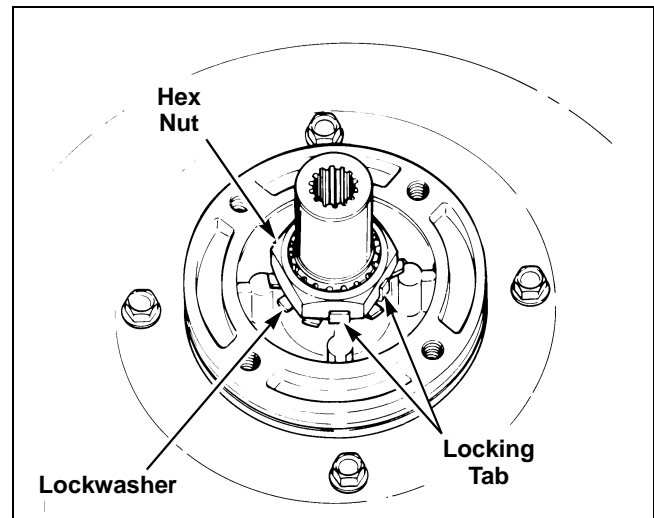

Figure 40
- h. Straighten bent tab(s) on lockwasher, then remove hex nut using No. 306P4 Hex Wrench. Refer to *Figure 40*.
- g. Carefully place new hub assembly on splined transmission tube and install lockwasher and hex nut. Refer to *Figure 40*.
**IMPORTANT: Torque hex nut down between 40 to 70 foot pounds (54.23 to 94.91 Nm). If torque wrench is not available, tap hex wrench with a hammer until hub turns or until nut will no longer tighten. After nut has been tightened, bend at least two locking tabs on lockwasher into place on hex nut. Refer to *Figure 40*.**